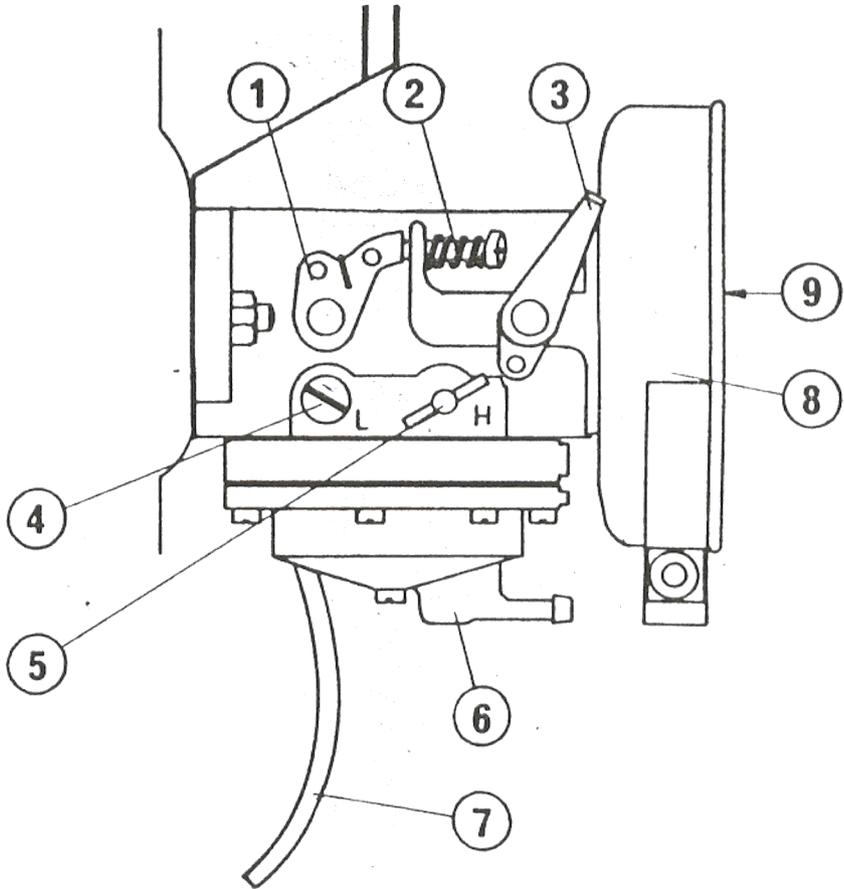

Figure 2 Carburettor
5. Put the choke lever (fig. 2 part 3) to the position shown in the figure, that is the "full choke position".
7. Open the needle valve of the carburettor (part 5 fig. 2) 1¼ turns to the left. When the engine is warm the needle valve should be adjusted to achieve the best running position for power and for fuel consumption. **CAUTION.** Never turn the needle valve tight. This may cause damage to the point of the needle valve.
11. When the engine is running, the choke lever should be moved (fig. 2 part 3) gradually back from the starting position and the speed of engine set as desired by the throttle lever.
Starting is generally the same as for a cold engine, but the choke lever (fig. 2 part 3) should be left in the run position. No choke is used, because the mixture will be too rich, and the engine will not start.
Check that the choke is off (i.e. not in the position shown in figure 2), close the needle valve (part 5) and rotate the engine several times vigorously while the throttle valve is completely open. As soon as the engine starts set the needle valve (part 5) to the best position, and adjust speed of the engine by means of throttle.